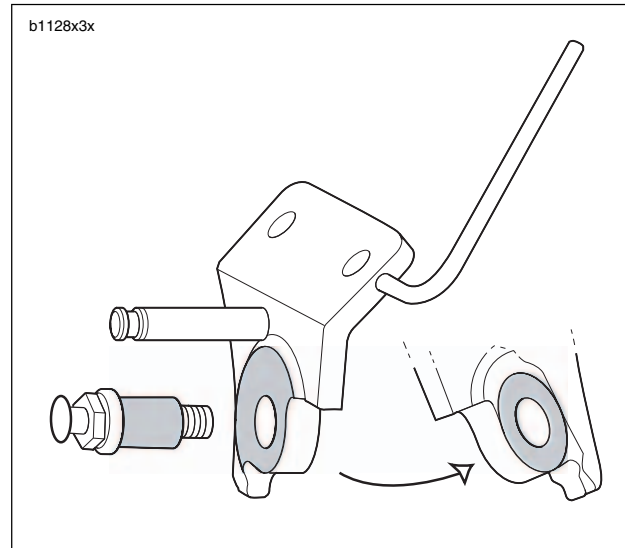

Figure 2-127. Lubricating Points (Shaded Areas)
1. Install sidestand leg (1).
- a. See Figure 2-127. Lubricate sidestand pivot bolt (5) and mating portions on sidestand bracket (2) with WHEEL BEARING GREASE (Part No. 99855-89) as shown in Figure 2-127.